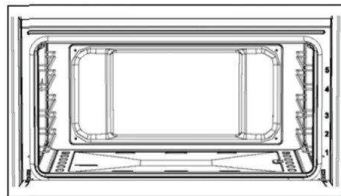

Fig. 23
When using the oven for the first time it should be operated for a maximum of 30 minutes at a temperature of about 250°C to eliminate any odours generated by the internal insulation. During normal oven use, select the desired cooking temperature using the thermostat knob and wait until the orange light turns off (set temperature has been reached) before putting in any food. The oven is equipped with 5 guides at different heights (Fig. 23) which can be used to insert shelves or the tray. To keep the oven as clean as possible it is recommended to cook meat on the tray or on the shelf that has been inserted inside the tray. Always turn the oven off by adjusting the oven function control knob to off (0).